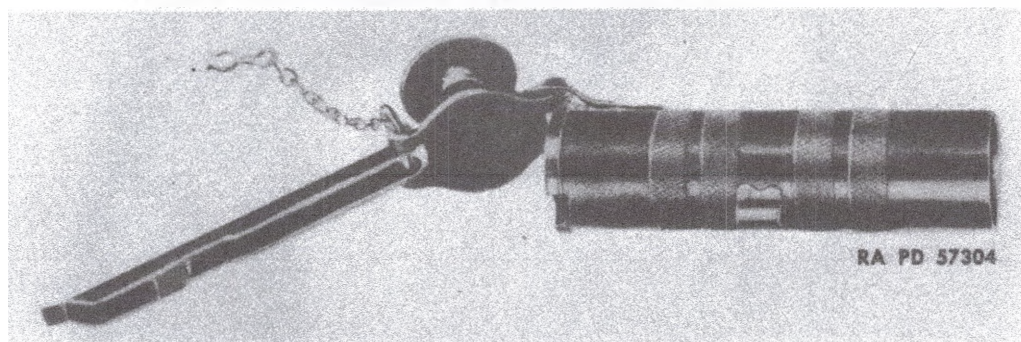

Figure 9 — Projector, Pyrotechnic, Hand, M9—Open View
(7) **HAND PYROTECHNIC PROJECTOR M9** (fig. 9). The Hand Pyrotechnic Projector M9 is single-action and single-loading. It can be fired by striking the firing pin with the hand or by striking the firing pin on the ground. It is used for projecting signals from the ground to aircraft in flight.